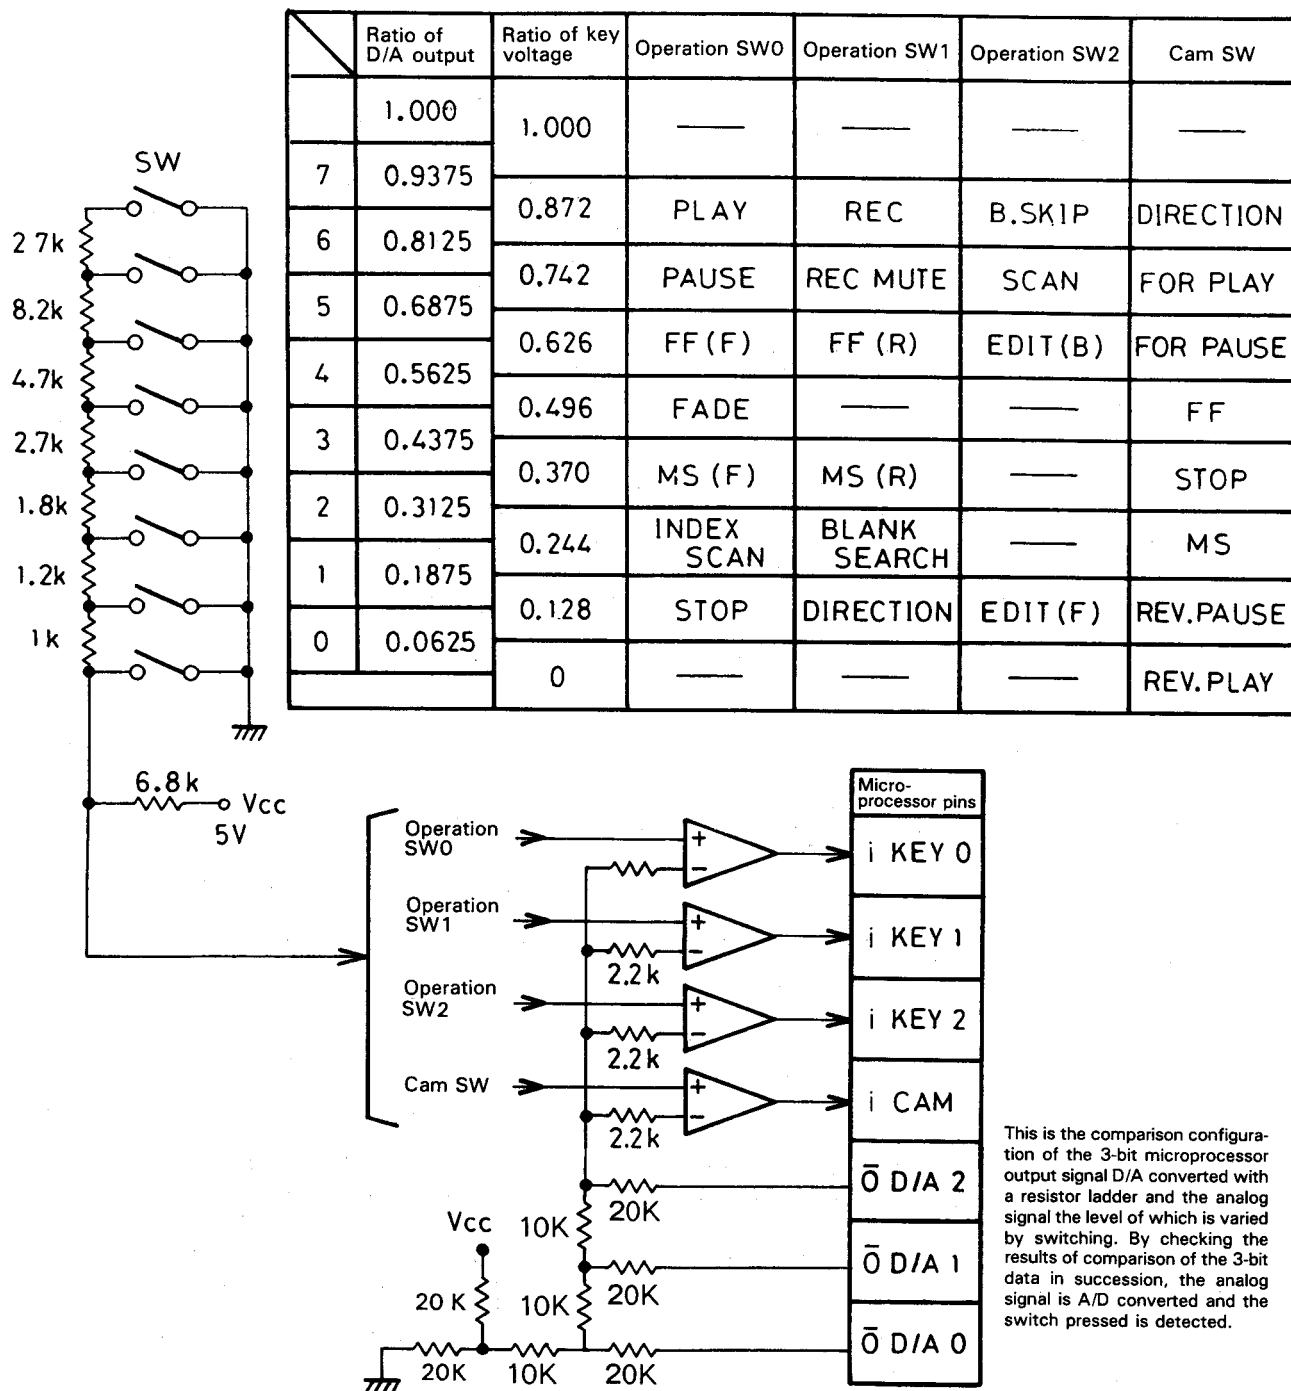

Fig. 6 A/D Voltage Levels Corresponding to Operation Keys and Cam Switch
and the other B.SKIP, SCAN, EDIT(B) and EDIT(F) keys are installed with key matrix 2 which is separate from the previous key matrix 0 and key matrix 1. The reverse mode input previously transmitted after A/D conversion is now transmitted to the exclusive REV.M0 and REV.M1 input terminals which frees one A/D conversion circuit which is used for A/D conversion of the key 2 input. The A/D voltage levels of the operation keys is shown in Fig. 6.